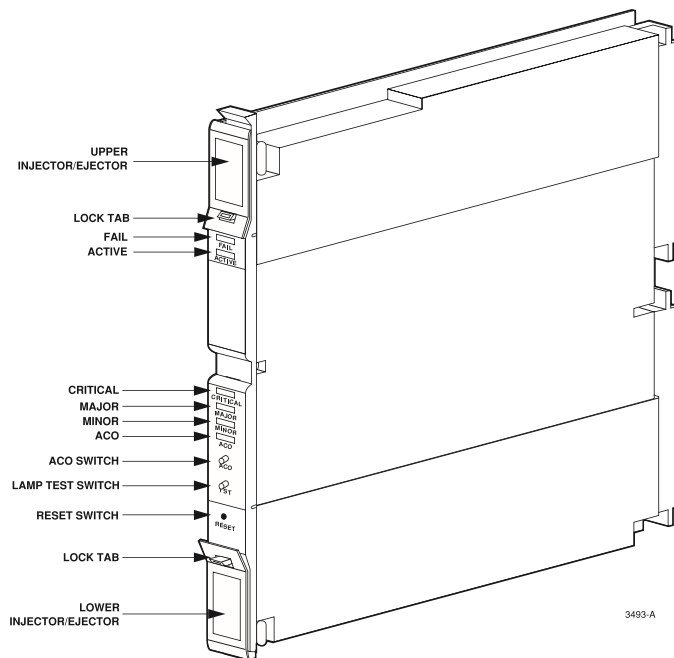

Figure 5-17. Shelf Control Unit (SCNU)
3. Release the lock tabs on the SCNU to free the upper and lower injectors/ejectors as shown in Figure 5-17.